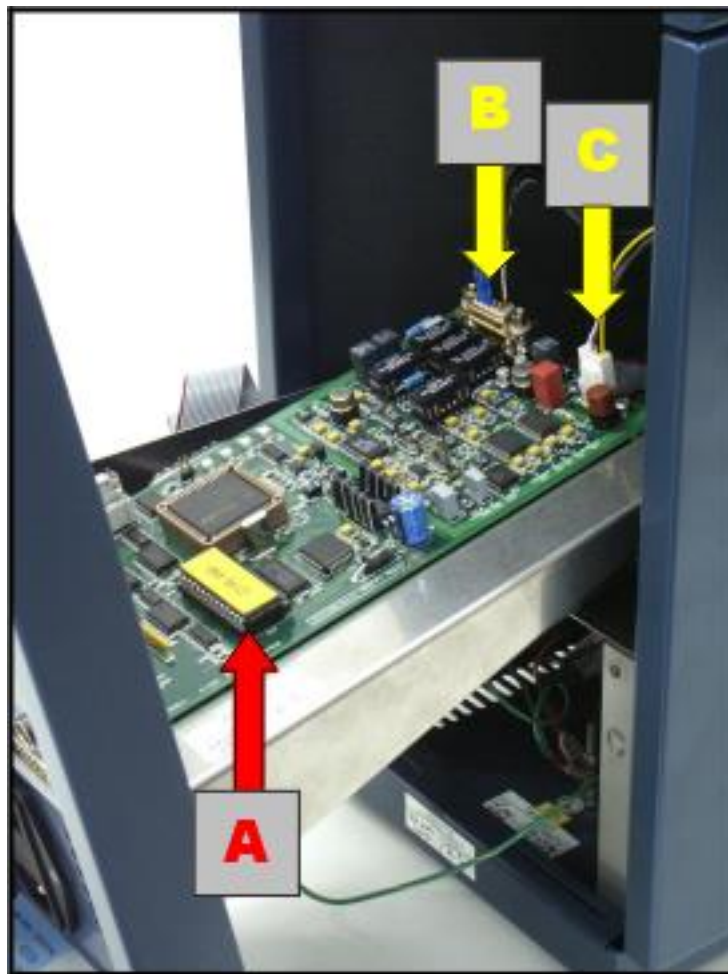

Fig. 5. Top view sensor board. (A) sensor board EPROM, (B): internal cell cable connector and (C): I²C/power cable connector.
Arrow (A) in Fig. 5 shows the location of the EPROM on the sensor board.
1. Disconnect the internal cell cable depicted in Fig. 5 (B). This is a subD connector, which is fixed with two nuts. Remove the nuts with the socket wrench and pull the connector out, as depicted in figure 6A.
2. Disconnect the I²C/power cable depicted in Fig. 5 (C). This is a Molex kk connector, which can be removed by gentle pulling in the upward direction.